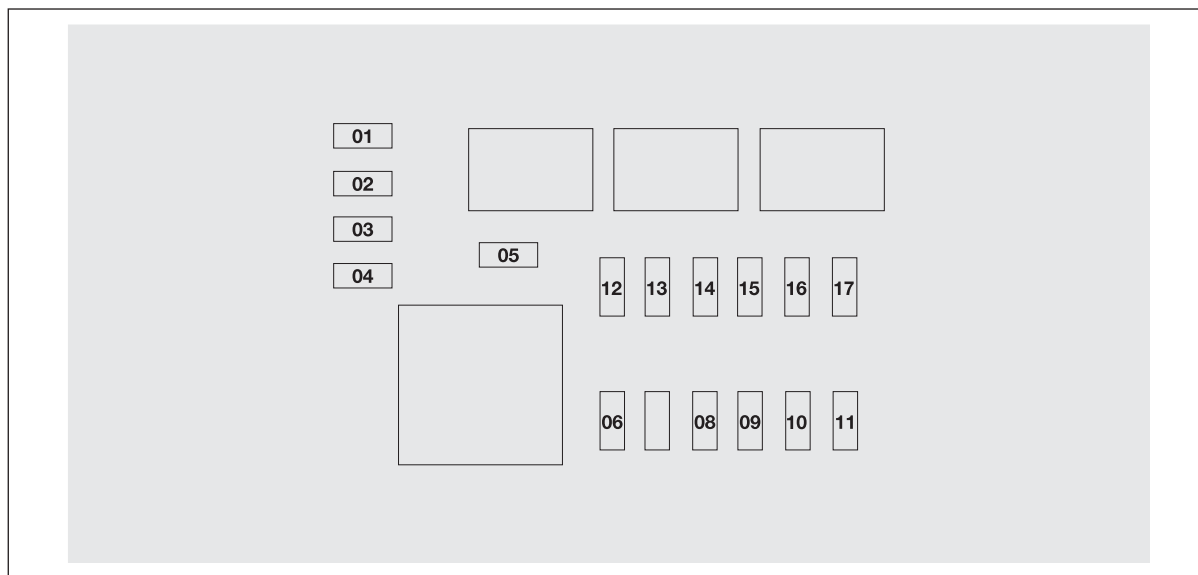

fig. 161
## Boot fuse box fig. 161
**Boot fuse box fig. 161**KNOWING